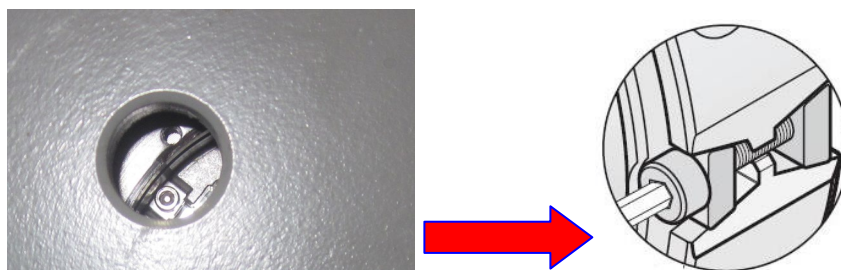

Figure 33
8. Tighten the bolt (M2.5) of the encoder collar with the torque wrench and socket Allen wrench (2mm) to 9 in-lbs. through the encoder cover hole. See Figure 33.